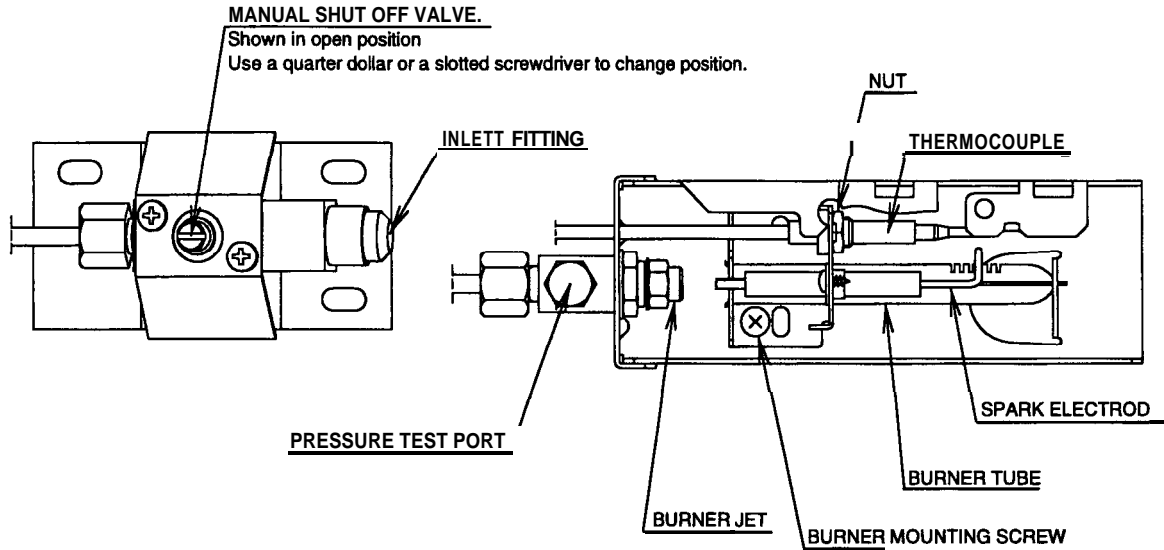

FIG. 13
- C. The LP gas pressure should be checked and the main regulator readjusted if pressure is incorrect. The correct operating pressure is 11 inches of water column. The correct place to take the LP gas pressure is at the test port just ahead of the burner jet. (See FIG. 13).
6. Remove the burner mounting screw and remove the burner assembly. (See fig. 13).